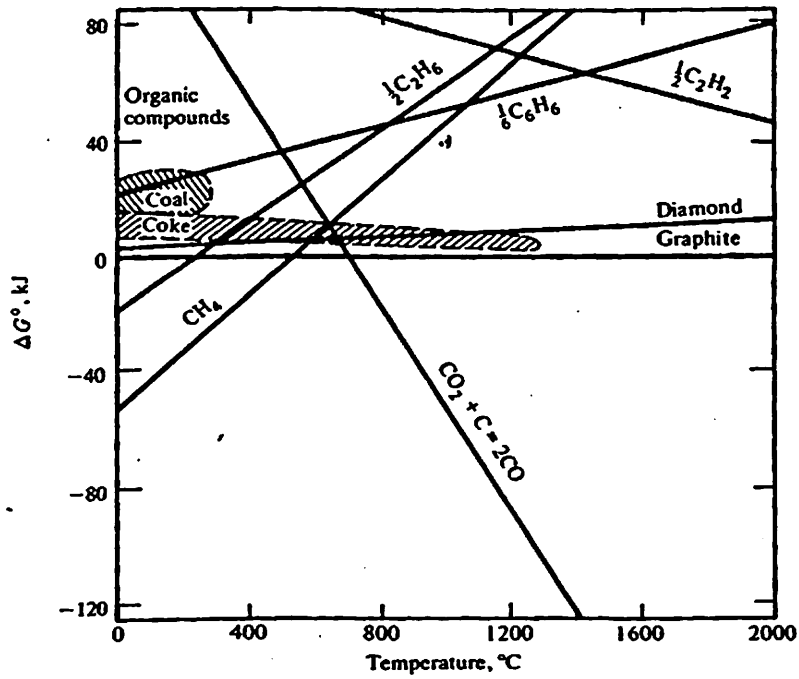

Figure 2.0 Standard Gibbs energy of formation, per mole of carbon of various compounds relative to graphite.
- (c) Study Figure 2.0 to answer the following questions: